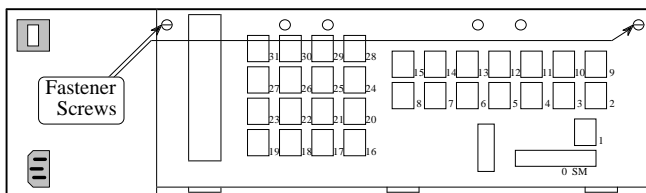

Figure 1 - Location of Fastener Screws
2. Loosen the two fastener screws holding the back panel to the chassis (see Figure 1).